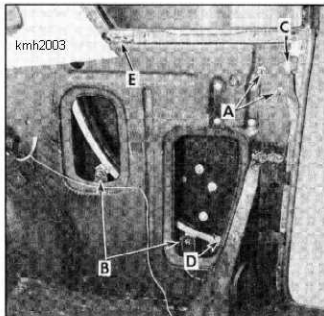

Fig. 21—Sport Coupe Rear Quarter Window Adjustment
1. "Up and down" and "fore and aft" adjustments of the window glass are made by loosening the pivot bolt "C" and the adjusting stud nuts "A" then shifting window glass assembly to the desired position (fig. 21).
1. The "in and out" adjustments of the quarter window is made by loosening the stud nuts "A" and turning the studs. Turning the studs "in" moves the top of the glass "in". Turning the studs "out" moves the top of the glass out (fig. 21).